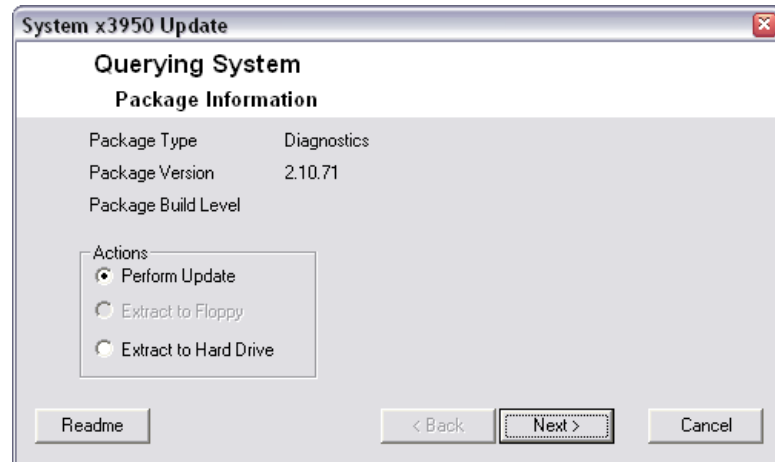

Figure 6-40 DSA Preboot: the Update process in Windows
2. Double-click the file name. The Update window opens, as shown in Figure 6-40.